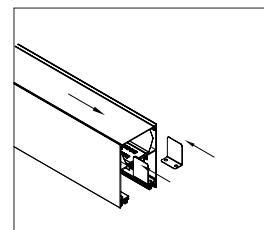

Fig. 3
3. Remove lenses of the two fixtures being connected by sliding them out, and connect the connector brackets using the connector bracket screws. Refer to Fig. 3 and Fig. 4. Reinsert lenses.